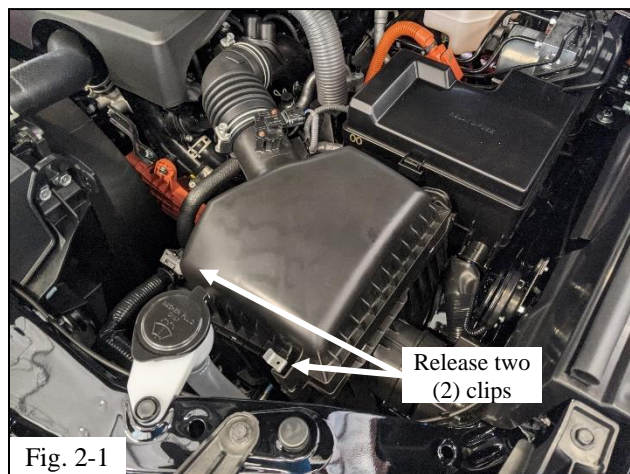

Fig. 2-1
(a) Unlatch the two (2) air filter housing clips (Fig. 2-1).
- (c) Re-latch the two (2) air filter housing clips (Fig. 2-1).